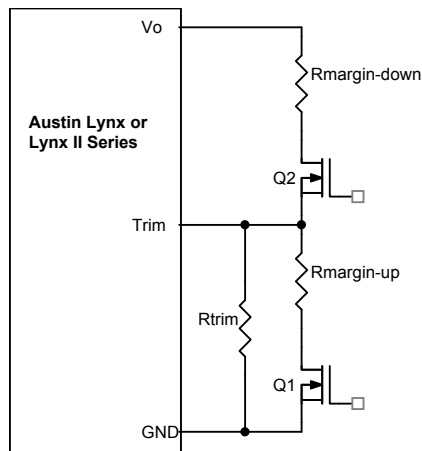

Figure 31. Circuit Configuration for margining Output voltage.
To provide over temperature protection in a fault condition, the unit relies upon the thermal protection feature of the controller IC. The unit will shutdown if the thermal reference point  $T_{ref2}$ , (see Figure 31) exceeds  $150^{\circ}C$  (typical), but the thermal shutdown is not intended as a guarantee that the unit will survive temperatures beyond its rating. The module will automatically restarts after it cools down.
Output voltage margining can be implemented in the Austin MicroLynx™ modules by connecting a resistor,  $R_{\text{margin-up}}$ , from Trim pin to ground pin for margining-up the output voltage and by connecting a resistor,  $R_{\text{margin-down}}$ , from Trim pin to Output pin. Figure 31 shows the circuit configuration for output voltage margining. The POL Programming Tool, available at [www.lineagepower.com](http://www.lineagepower.com) under the Design Tools section, also calculates the values of  $R_{\text{margin-up}}$  and  $R_{\text{margin-down}}$  for a specific output voltage and % margin. Please consult your local Lineage Power technical representative for additional details.